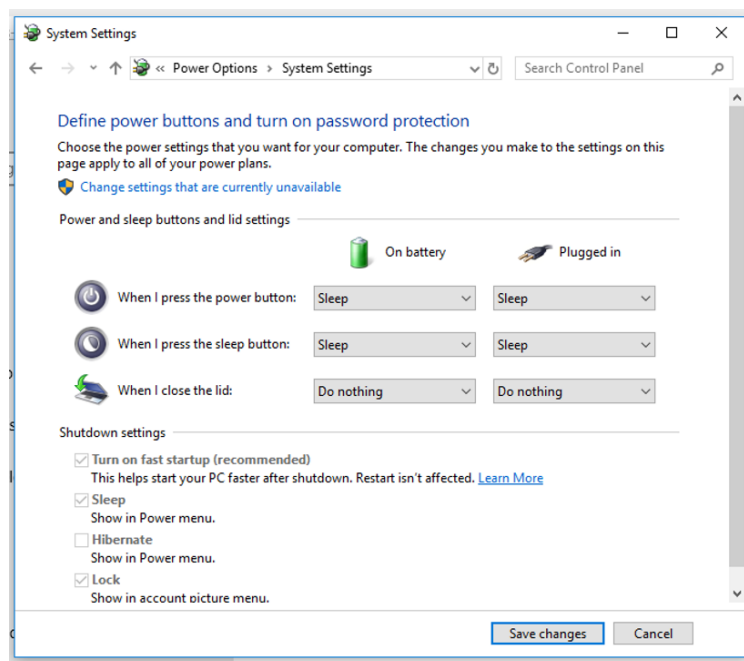

Figure 35: Power Settings For Range Extension
5. Open Control Panel. Select *Power Options* -> *Advanced Options*. In the section for “When I close the lid:” select “Do nothing.” Save changes. (fig 35)